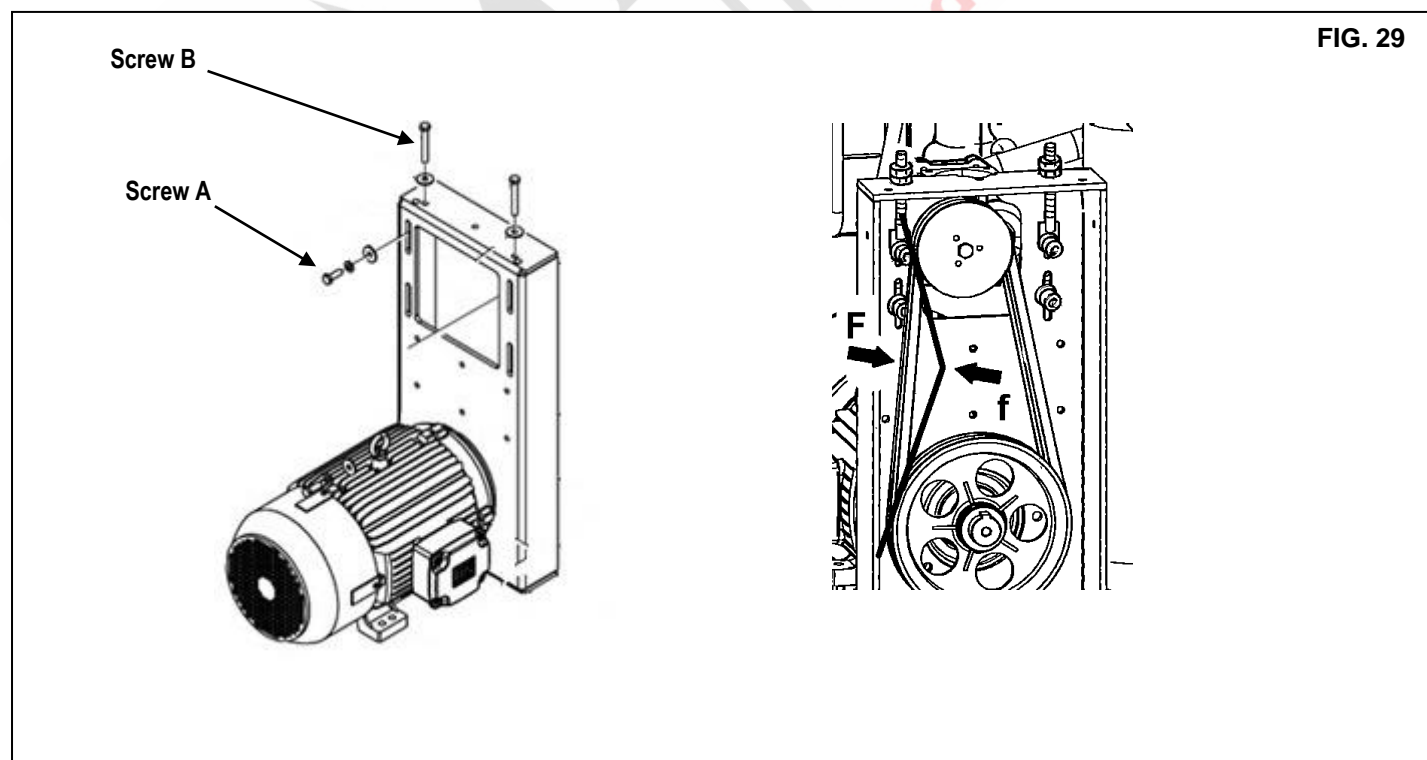

FIG. 29
- Unlock the screws A (x4) (Fig 29).
- Adjust the belt tension by turning the screws B (x2) (Fig 29)